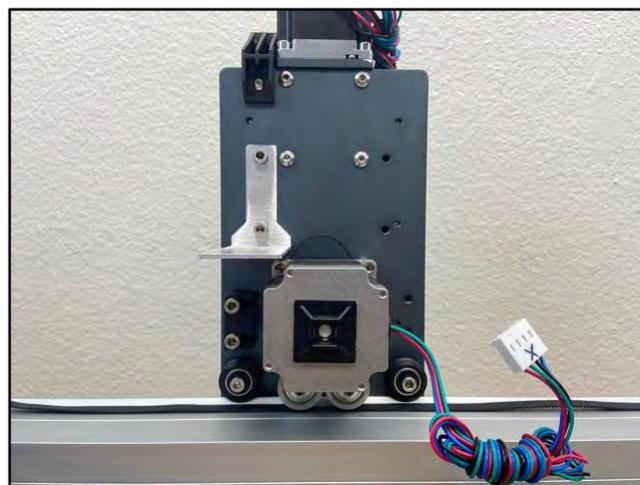

Figure 29
- b. Use a 4mm hex key and four (4) M5×10mm SHCS to secure. See *Fig. 29*.